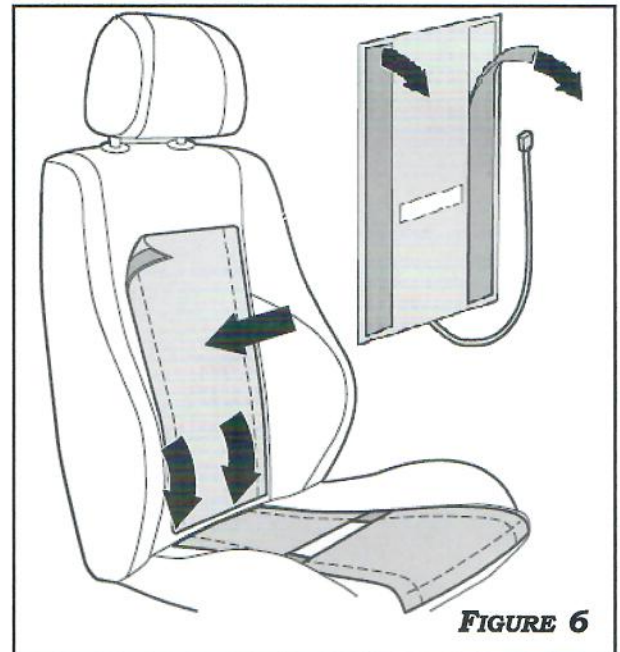

FIGURE 6
2. REMOVE THE TAPE'S PROTECTIVE LAYER AND CENTER THE ELEMENT SIDE TO SIDE ON THE SEAT BACK FOAM. POSITION THE THERMOSTAT APPROXIMATELY 1-2" FROM THE OPPOSITE CUSHION. WORKING FROM THE BACK TO THE FRONT OR FRONT TO BACK, PRESS FIRMLY ON THE ELEMENT TO ENSURE A GOOD BOND WITH THE SEAT CUSHION AND TO AVOID WRINKLES. **FIGURE 6**